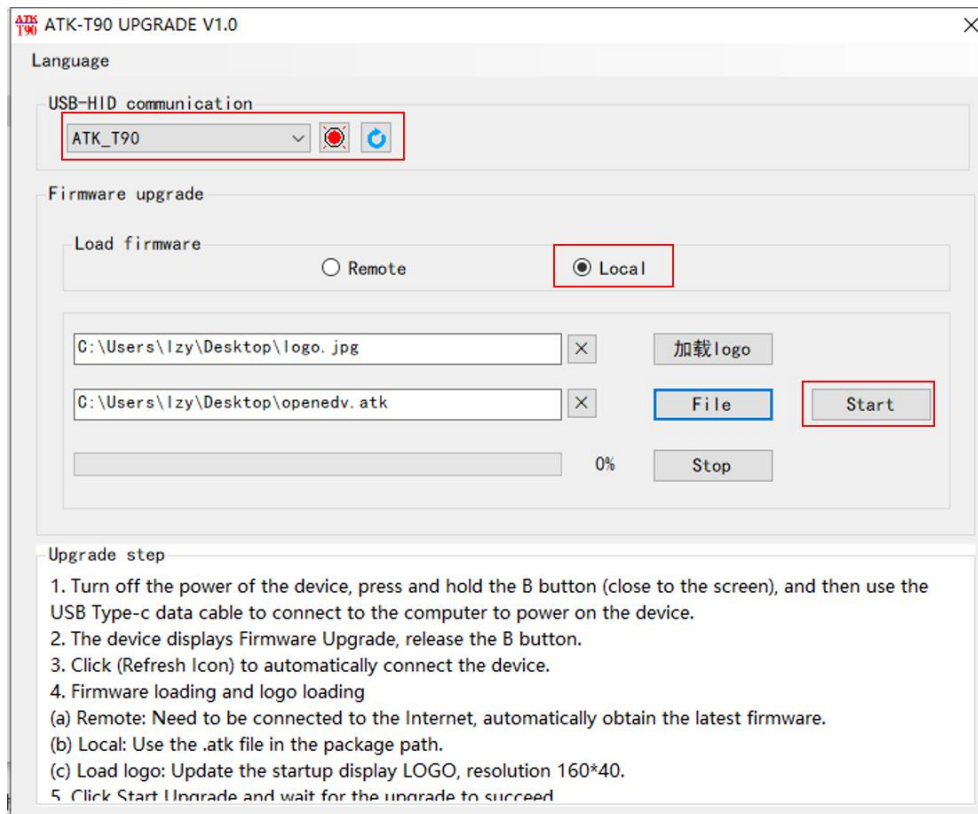

Figure 10-3 Firmware upgrade
Step 4: Select the local firmware, and load the T90_APP.atk file, click to start the upgrade and wait for the upgrade to complete. The operation is shown in Figure 10-3 below.